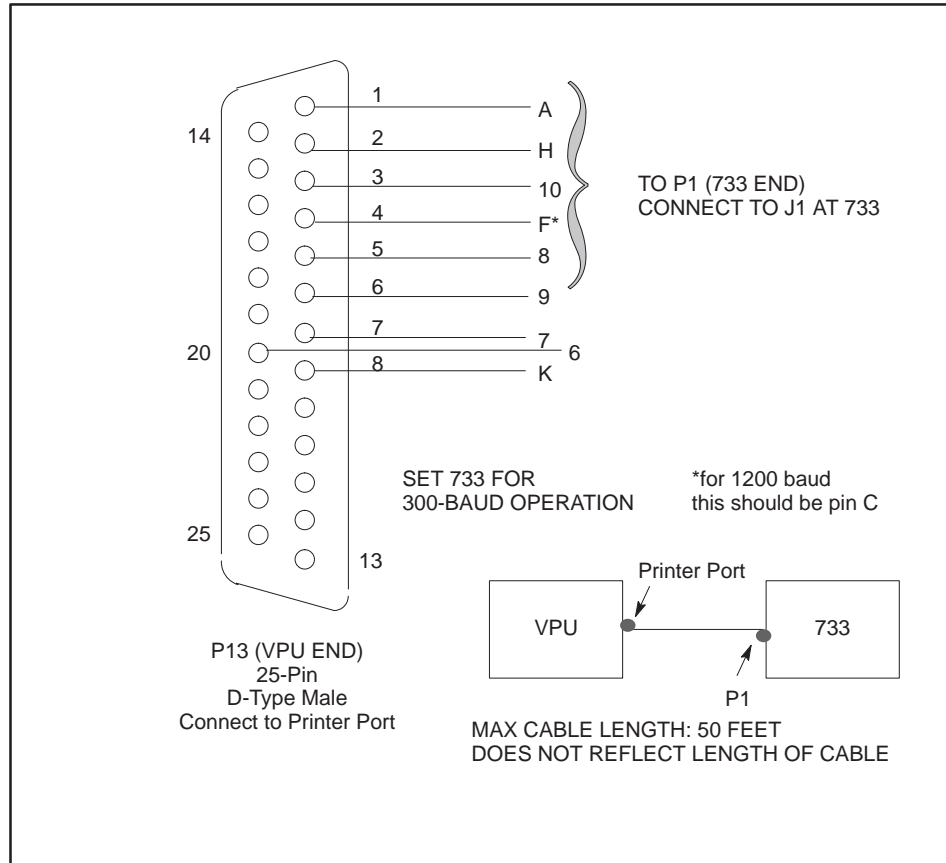

Figure 4-8 VPU to 733 Cable – 300 or 1200 Baud
**733 Terminals.** The VPU200 is connected to a 733 KSR terminal using the cable illustrated in Figure 4-8. The 733 must be set for 300 baud operation with the printer on-line, and the VPU200 must be configured for 300 baud.
The cable shown for 1200 Baud in Figure 4-8 is for use in transporting programs from the VPU to 733 cassette only.